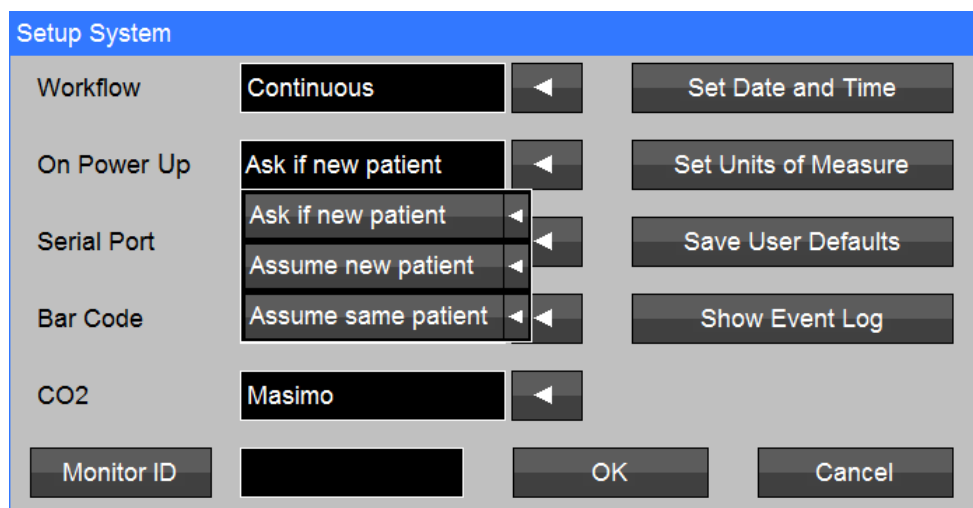

Figure 11: Setup System Menu: **On Power Up** selection
- Set **On Power up** selection to desired choice (refer to Figure 11 below)